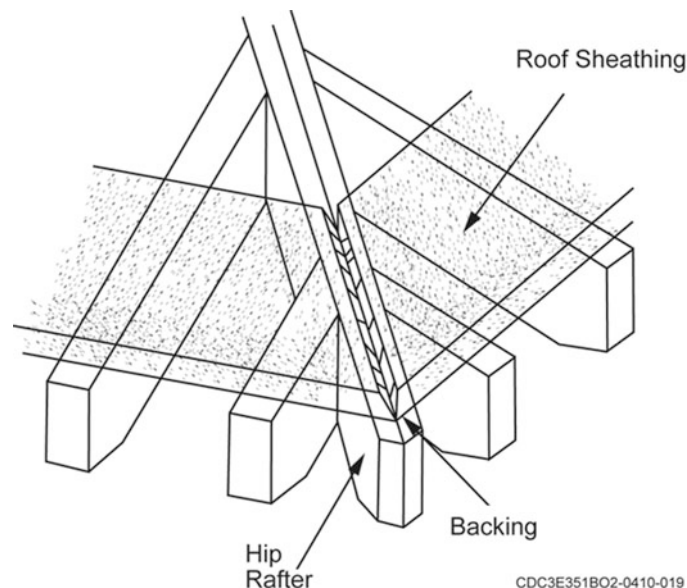

Figure 2-14. Backing a hip rafter.
- *Backing* means to bevel the hip rafter's upper edge (fig. 2-14). The backing amount is removed at a right angle to the roof surface or the hip rafter's top edge.